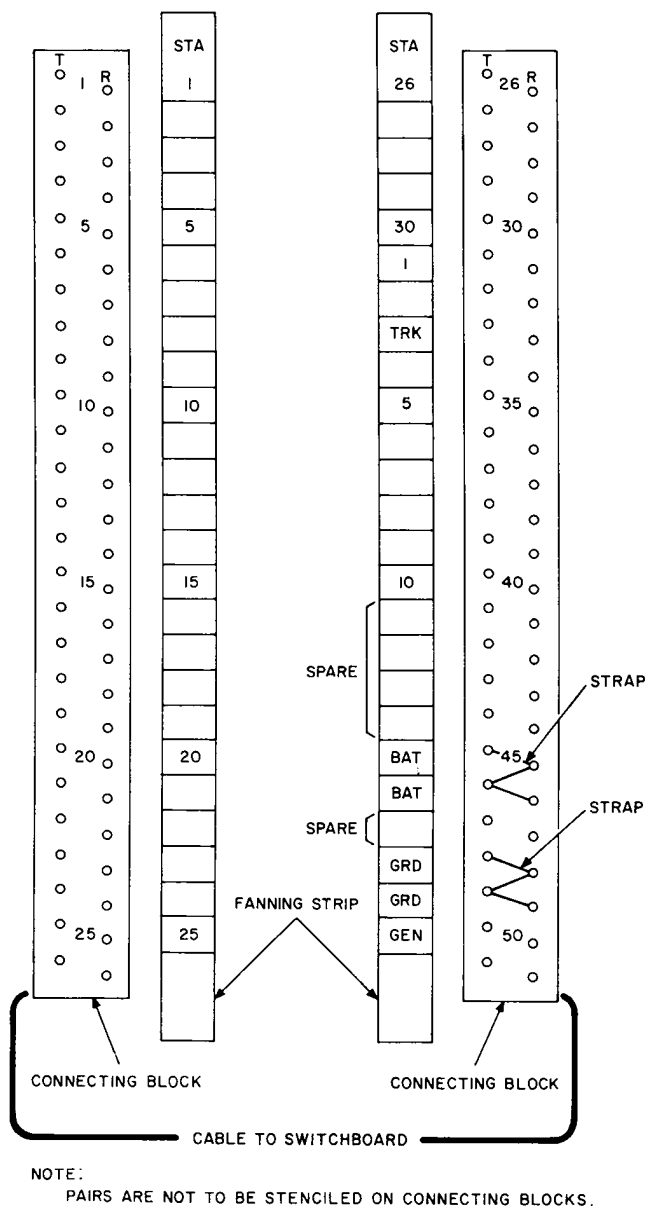
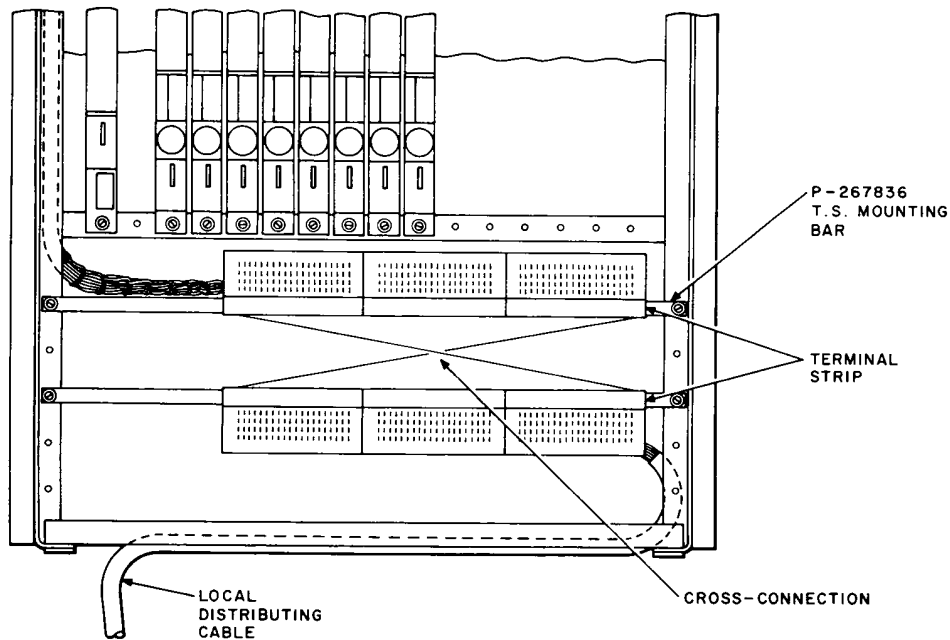

Fig. 10—Typical Arrangement of Cross-Connecting Terminal for 30-Line PBX
Fig. 11—Arrangement for Terminating Local Distributing Cables When No Cross-Connecting Terminal is Provided—Rear View
3.23 *Cables and/or Wiring* carrying station lines, trunks, battery and ground, and generator to the PBX may be **terminated** in a **cross-connecting terminal** on **binding post chambers** or **connecting blocks** and **adapters** (see Fig. 10) or in the bottom rear of the PBX on a separate group of BB4B or 217B (Manufacture Discontinued) terminal strips. See Fig. 11 and 12.
3.24 *Letter and Number* the fanning strips as shown in Fig. 10 using 1/8-inch or 3/16-inch rubber stamps in accordance with Section 460-560-201. When connecting blocks (having their ring binding post to the right and above the tip binding post) are used, transpose the designations for single leads.
- (a) Strap all the terminals of the battery (BAT) pairs together. See Fig. 10.
- (b) Strap all the terminals of the ground (GRD) pairs together. See Fig. 10.
3.38 *Terminate the battery and ringing supply feeders* in the cross-connecting terminal as shown in Fig. 10, and in the PBX on the terminal strip (MISC) as shown in Table E and in accordance with SD-66520-01.